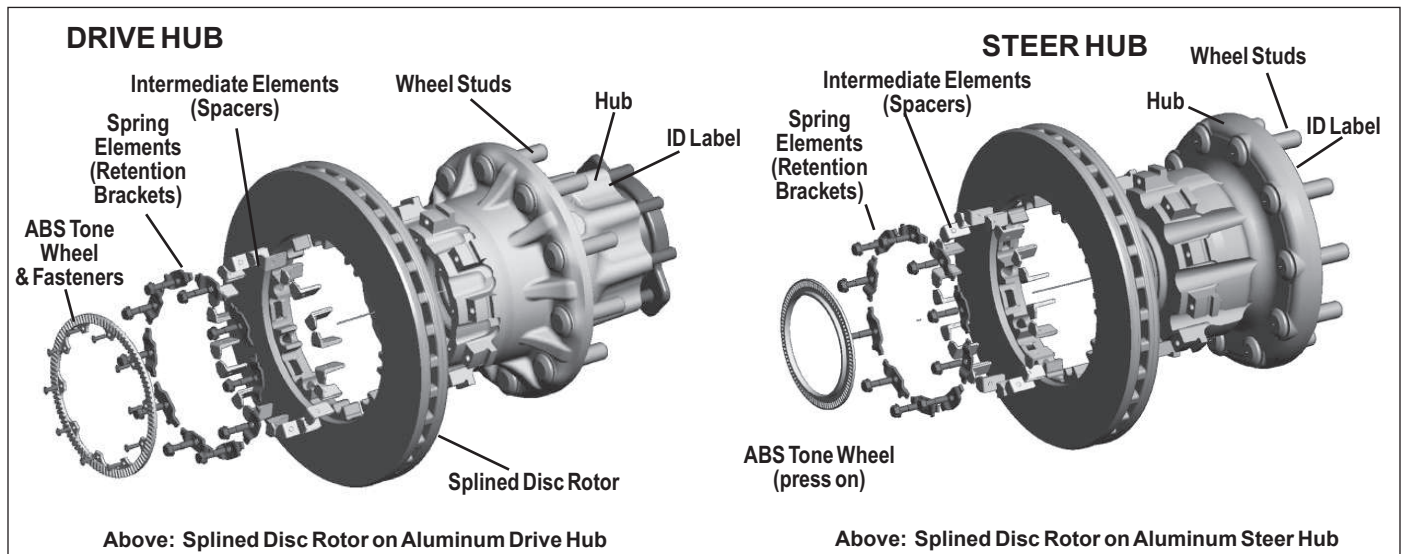

Figure 86 – Splined Disc Rotor Examples - Exploded Views
- 5.7.7 On drive axles, the ABS tone ring must also be removed. (See Figure 86.) Retain for reinstallation.